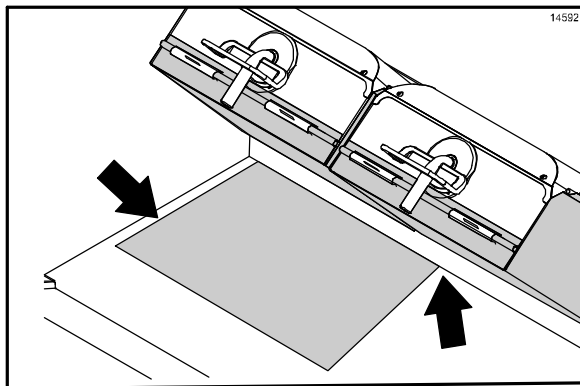

Figure 20
- With the longest side of the lower release sheet facing the back of the grill, hold the release sheet about one inch from the end of each side. Align the back edge of the release sheet with the back splash and the side edge of the grill. (See Figure 20.)